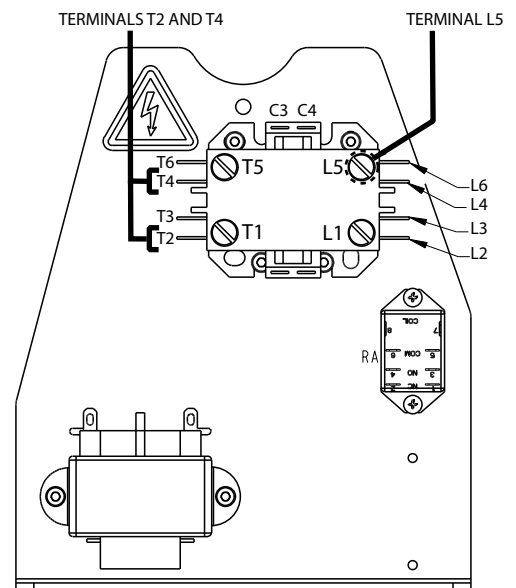

Figure 7, Middle Bracket Contactor Connections
3. Insert white (neutral) wire from power cord into L5 terminal of contactor. Tighten screw on the contactor to secure the wire. See Figure 7.